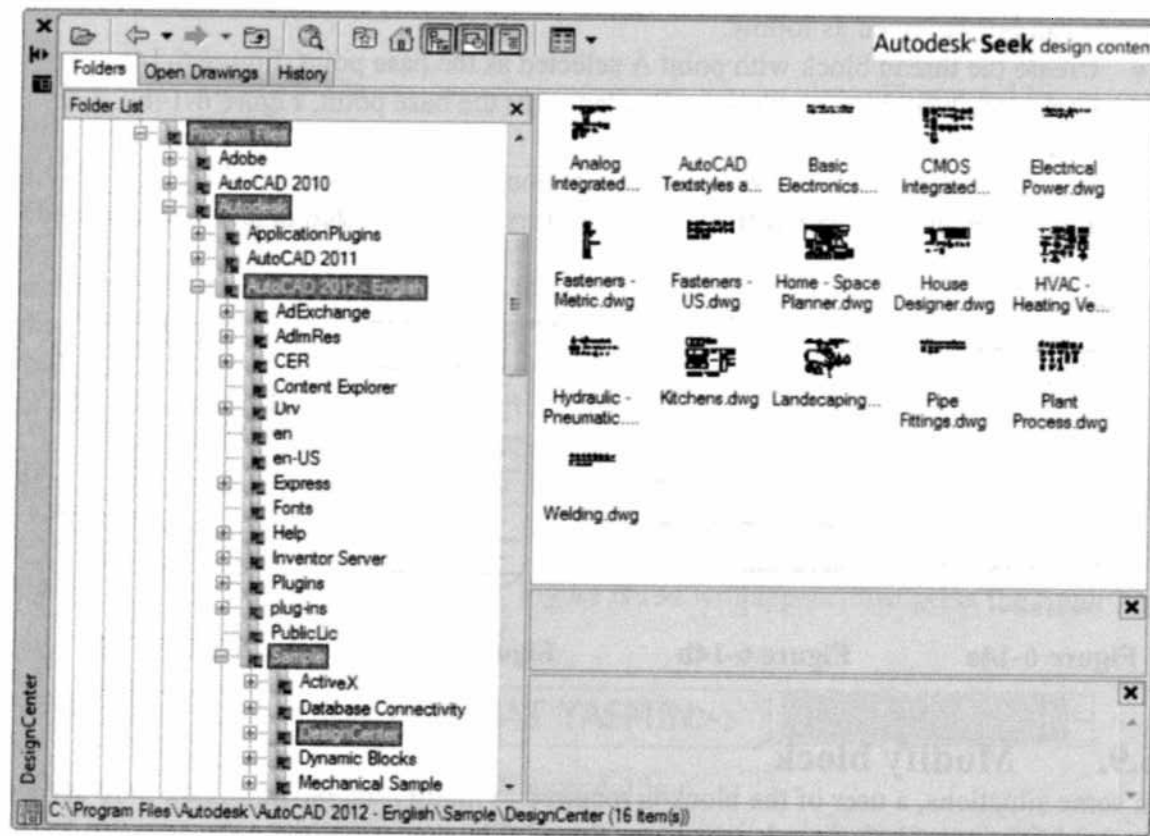

Figure 6-16a
- The activation of the command will open the *Design Center* palette, Figure 6-16a.
- Expand the *Design Center* option by expanding *Program File*, *Autodesk*, *AutoCAD 2013 – English*, *Sample*, and finally, the *Design Center*, Figure 6-16a.